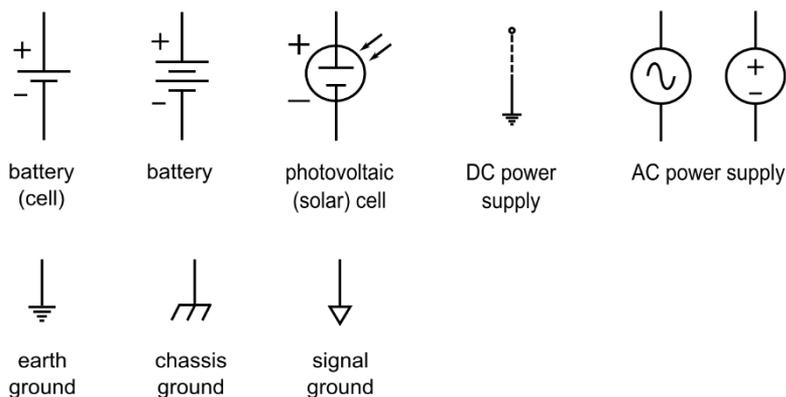

FIGURE 14-4:
Power for a circuit can come from an alternating current (AC) source, such as the 120 VAC (volts AC) outlet in your house or office (line power), or a direct current (DC) source, such as a battery or the low-voltage output from a wall transformer. DC supplies can be positive or negative with respect to the zero-volt reference (known as *common ground*, or simply *common*) in a circuit. Figure 14-4 shows various symbols used to represent power and ground connections. These symbols are discussed more fully in the next two subsections.
Figuring out the various power connections in a complex schematic is sometimes a task unto itself. This section aims to clear things up a bit. As you read through this section, refer to Figure 14-4 to see the symbols as they're discussed.
- » **Battery or solar-cell symbol:** Each of the battery symbols in Figure 14-4 represents a DC source with two leads. Technically, the battery symbol that